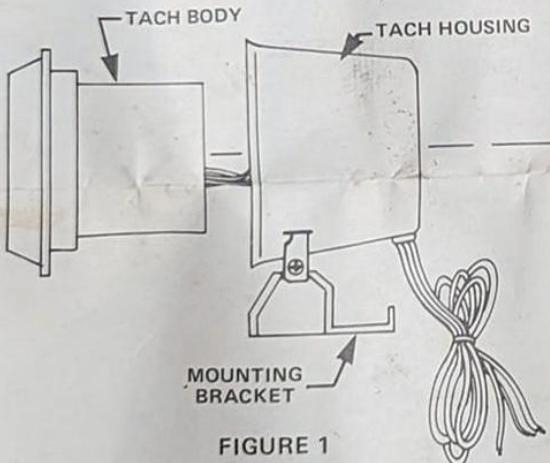
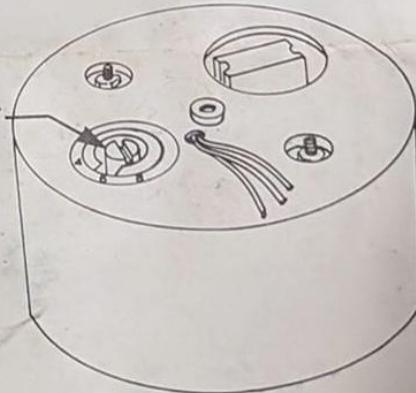

FIGURE 1
FIGURE 2
1. Before mounting or connecting Tachometer in the car it will be necessary to set Tachometer for either 4, 6 or 8 cylinder application. To set Tach remove philips screw in rear of housing. Remove Tachometer body from housing body making sure that mounting bracket is loose. (See figure 1.) Using a small straight blade screwdriver rotate slot until it points to your particular cylinder number. (See figure 2.)